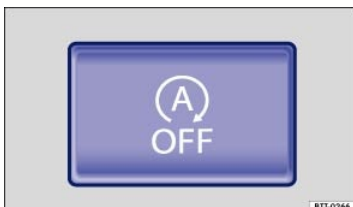

Fig. 124 In the upper center console: Button for the start-stop system.
- Press the  button in the upper center console to switch off the system ⇒ Fig. 124.